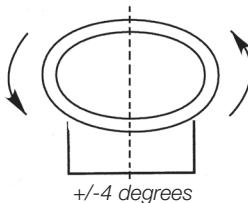

Fig. 3A
- Using the bracket as a template, mark the position of the screw holes. Drill the holes in the wall where the light is to be mounted. Use suitable screws and wall plugs if necessary. The floodlight must be fixed securely. Mount the floodlight horizontally ($\pm 4^\circ$) (Fig. 3A).